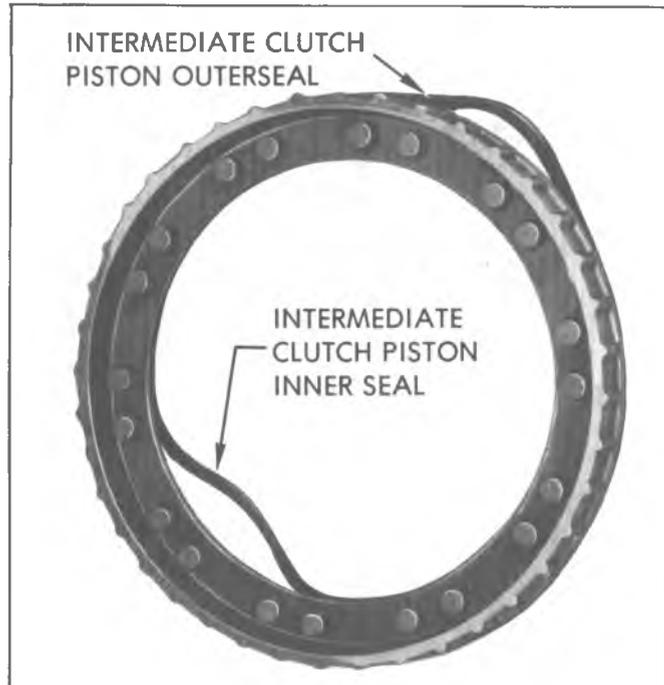

Fig. 7A-60B--Removing Intermediate Clutch Piston Inner and Outer Seal
4. Remove intermediate clutch piston inner and outer seals (fig. 7A-60B).